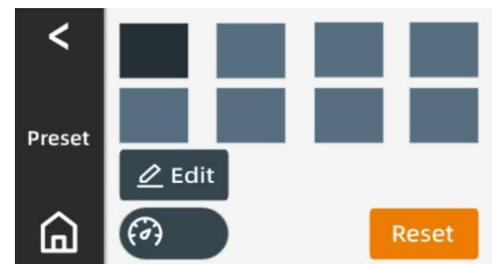

Figure 4
- 1) Click  to enter Preset mode (Figure 4);
- 3) After finish the setting, press  to return to the preset mode interface (Figure 4)